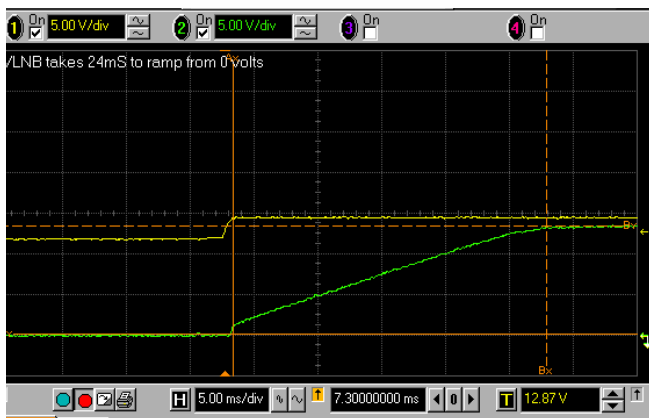

FIGURE 5. VLNB SOFT-START TIME
7. The green trace in Figure 5 shows the soft-start time of VLNB to be approximately 24ms after the EN and DLIN bits in register 4 were toggled high. For a comprehensive description of system registers and I²C commands, please refer to the ISL9492 datasheet.